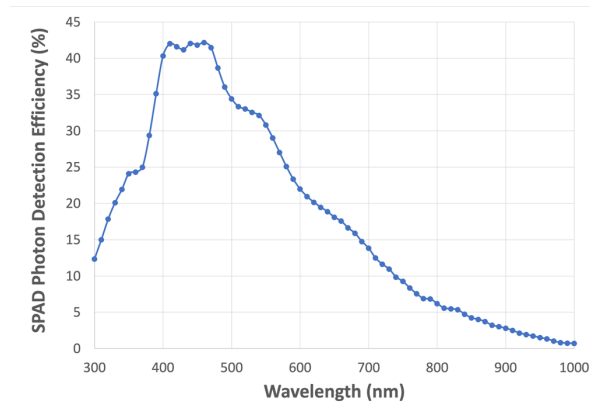
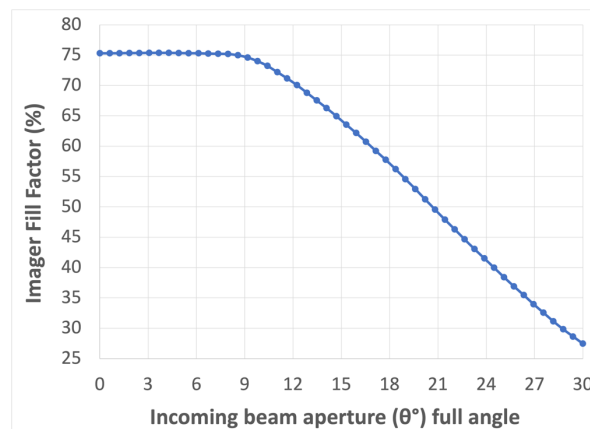
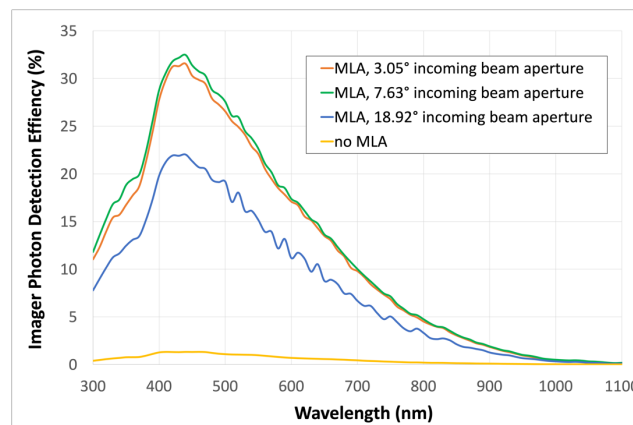

Figure 8. SPAD-PDE, i.e., the PDE of the active area of the SPAD sensor
Figure 9. Imager fill factor, defined as the ratio between the pixel area and the SPAD sensor area.
Figure 10. Hermes measured ImagerPDE: without MLA and for three incoming beam apertures when with MLA.
The SPAD-PDE for the Hermes is shown in Figure 8. The ImagerPDE can be calculated multiplying the SPAD-PDE by the imager fill factor, defined as the ratio between the pixel area and the SPAD sensor area. In case of an imager without a microlens array (MLA), the fill factor (also called native fill factor in this case) is a pure geometrical calculation and, for the Hermes, equals to 3.14 %. In case of an imager with a MLA, the fill factor can be calculated by multiplying the native fill factor by the MLA Concentration Factor (CF), defined as the ratio between the collected light with lenses and the collected light without lenses.
The CF actual value will depend slightly on the incoming beam wavelength and greatly on its aperture. Figure 9 shows the calculated imager fill factor for a Hermes camera having a SPAD array with MLA, as a function of the incoming beam aperture (full angle). Data in Figure 9 has been obtained averaging over three different wavelengths (400 nm, 600 nm and 800 nm). Figure 10 shows measured ImagerPDEs for a Hermes in case no MLA is used and at three incoming beam apertures, when a MLA has been mounted on it. By comparing Figure 8 with Figure 10, it is worth noting the smoothing effect of the MLA on the PDE ringing.